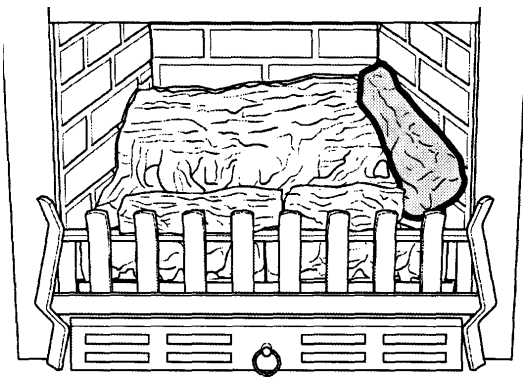

Figure 14 Second "C" log position
- Take the other 'C' log and position as shown in figure 14, this time ensuring that the bark effect of the log is facing away from the sidewall, but (as previous) the thinner end of the log is at the back corner of the firebox.